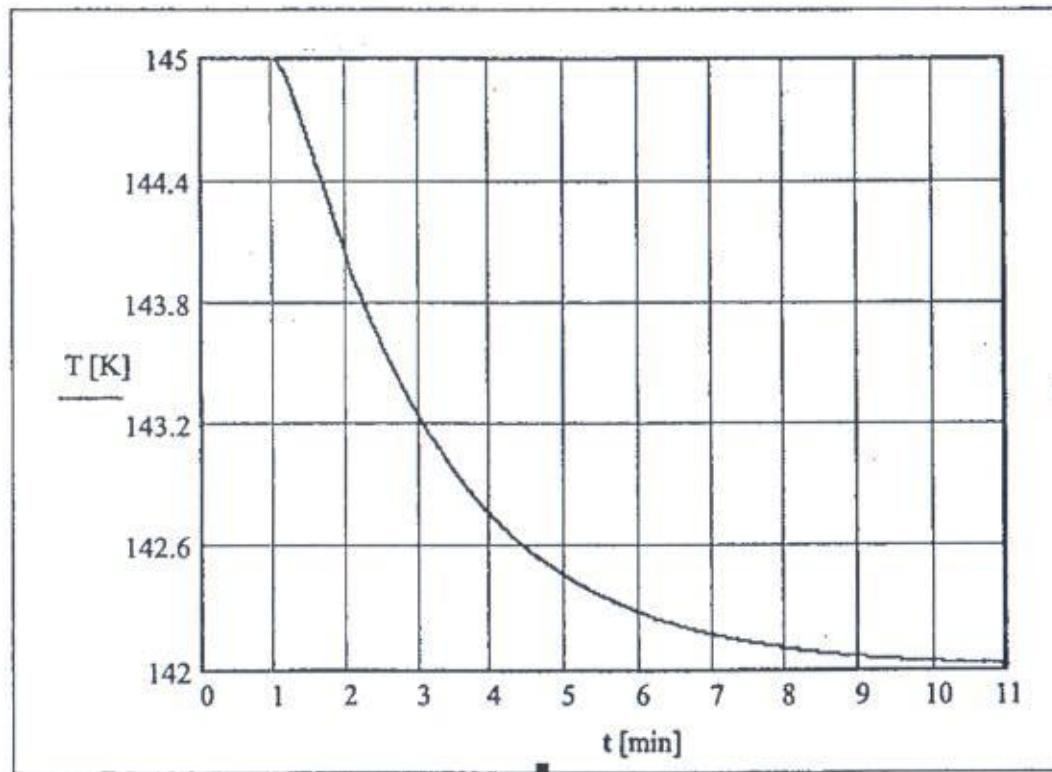

Figure A.3. : Open loop response for heat exchanger.
- [d] The open loop response for the heat exchanger outlet temperature to a 5% step change on the control valve opening at  $t = 0$  is shown in Figure Q.3 from the nominal values of 50% control valve opening. Calculate the effective dead time, time constant and gain by using process reaction curve method. Indicate the units of the dead time, time constant and the gain. Show the calculated values in Figure A.3 provided in Appendix and attached with your answer booklet. [6 marks]